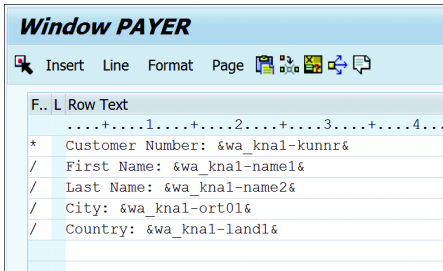

Figure 18.16 Payer Window
6. To print payer details, open the SAP script editor for the payer window and maintain the text as shown in Figure 18.16. Here, you're printing the data from the `wa_knal` data object of the driver program.